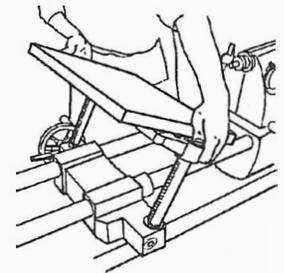
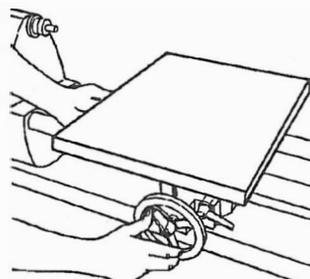
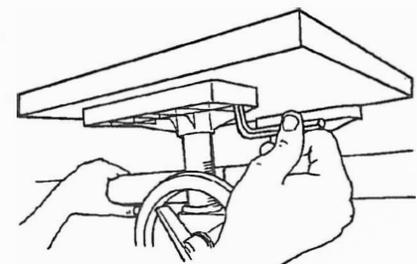

Fig. A-23
Fig. A-24
Fig. A-25
**19.** Place the table posts in the Mark V carriage mounting holes, as seen in Fig. A-23. For the **Model 500** the rack teeth face toward the headstock, and for the **Model 510**, the rack teeth face away from the headstock. Gently rock the table until it settles in place and the pinions engage the racks. Raise and lower the table to be sure the carriage and rack mesh smoothly together. Tighten the height lock, as in Fig. A-24. Use a  $9/16$ " Allen wrench to tighten all four cap screws (33) attaching the supports to the table, as illustrated in Fig. A-25.